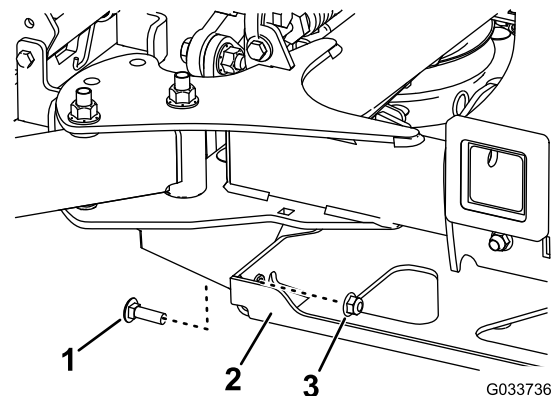

Figure 83
4. Remove the 2 bolts and 2 nuts connecting the strut bracket to the frame (Figure 83).
4. Install the 2 bolts that you retained to connect the strut bracket to the frame (Figure 83).